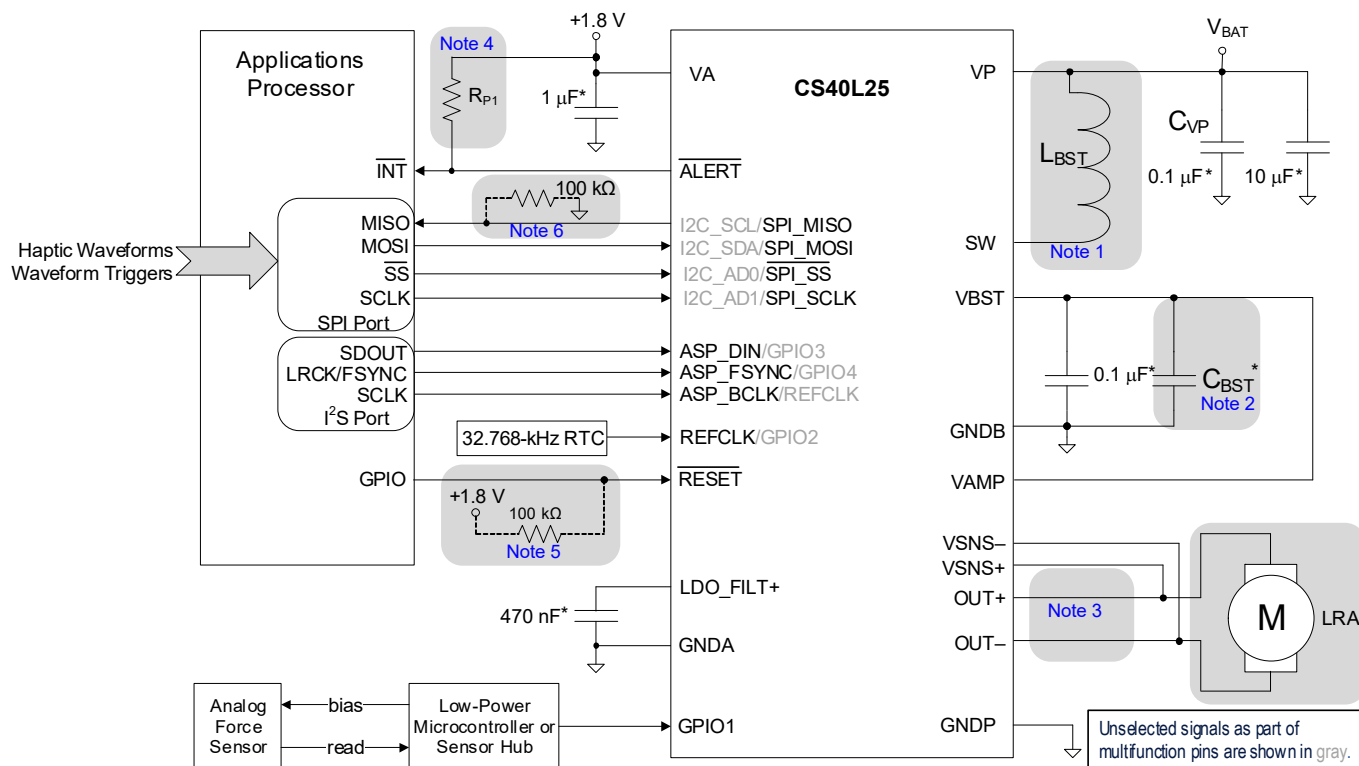
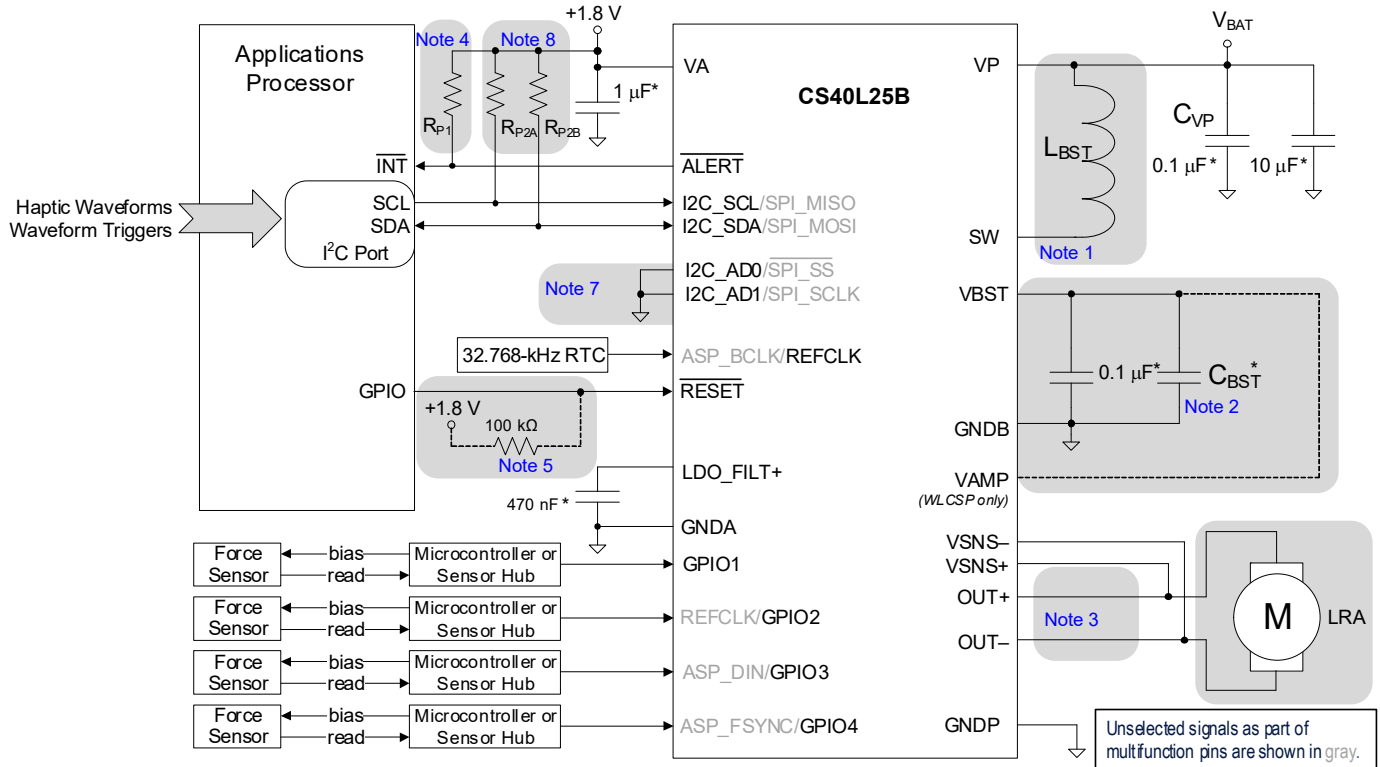

Figure 2-1. Typical Connection Diagram—SPI with GPI and I²S Support
Figure 2-4. Typical Connection Diagram—I2C Interface with Four GPIOs and Triggered Waveforms
- Fig. 2-1 – Fig. 2-4 are intended to provide a sample of possible connection schemes and does not encompass all variations.
Test conditions (unless specified otherwise): Fig. 2-1 – Fig. 2-4 show typical connections to, and passive components used with, the CS40L25/B; input test signal is a 24-bit full-scale 997-Hz sine wave with 1 LSB of triangular PDF dither applied; typical performance data taken with VA = 1.8 V, VP = 3.6 V, VAMP = VBST = 11.0 V; min/max performance data taken with VA = 1.80 V, VP = 3.60 V, VAMP is automatically adjusted between VP and 11.0 V by Class H based on signal level; Ground = GND = GNDA = GNDP = 0 V; voltages are with respect to ground; T_A = 25°C; AMP_VOL_PCM = 0 dB; AMP_RAMP_PCM = 000; measurement bandwidth is 20 Hz to 20 kHz; Fs = 48 kHz; L_{BST} = 1.0 µH; f_{PLL_OUT} = 196.608 MHz. Device initialization after power-on and reset done as described in Section 4.2.4.
Test conditions (unless specified otherwise): Fig. 2-1 – Fig. 2-4 show typical connections to, and passive components used with, the CS40L25/B; input test signal is a 24-bit full-scale 997-Hz sine wave with 1 LSB of triangular PDF dither applied; typical performance data taken with $V_A = 1.8\text{ V}$, $V_P = 3.6\text{ V}$, $V_{AMP} = V_{BST} = 11.0\text{ V}$; min/max performance data taken with $V_A = 1.80\text{ V}$, $V_P = 3.60\text{ V}$, $V_{AMP} = 11.0\text{ V}$; Ground = GND = GNDA = GNDA = 0 V; voltages are with respect to ground; $T_A = 25^\circ\text{C}$; measurement bandwidth is 20 Hz–20 kHz AES-17; $F_s = 48.0\text{ kHz}$; $L_{BST} = 1.0\text{ }\mu\text{H}$; $f_{PLL_OUT} = 196.608\text{ MHz}$; simulated load = $8\text{ }\Omega + 33\text{ }\mu\text{H}$. Device initialization after power-on and reset done as described in Section 4.2.4.
Test conditions (unless specified otherwise): Fig. 2-1 – Fig. 2-4 show connections to, and passive components used with, the CS40L25/B; typical performance data taken with $V_A = 1.8\text{ V}$, $V_P = 3.6\text{ V}$, $V_{AMP} = V_{BST} = 11.0\text{ V}$; min/max performance data taken with $V_A = 1.80\text{ V}$, $V_P = 3.60\text{ V}$, $V_{AMP} = V_{BST} = 11.0\text{ V}$; Ground = GND = GNDA = GNDA = 0 V; voltages are with respect to ground; $T_A = 25^\circ\text{C}$; $L_{BST} = 1.0\text{ }\mu\text{H}$; $C_{BST} = 3.6\text{ }\mu\text{F}$; $f_{PLL_OUT} = 196.608\text{ MHz}$. Device initialization after power-on and reset done as described in Section 4.2.4.
Test conditions (unless specified otherwise): Fig. 2-1 – Fig. 2-4 show typical connections; Ground = GND = GNDA = GNDA = 0 V; voltages are with respect to ground; $V_A = 1.8$ V, $V_P = V_{AMP} = V_{BST} = 3.6$ V; $T_A = 25^\circ\text{C}$; $\overline{\text{RESET}}$ inactive; control port inactive; DSP disabled and bypassed. Device initialization after power-on and reset done as described in Section 4.2.4.
Test conditions (unless specified otherwise): Fig. 2-1 – Fig. 2-4 show typical connections; Ground = GND = GNDA = GNDA = 0 V; voltages are with respect to ground; $V_A = 1.8$ V, $V_P = 3.6$ V, V_{AMP} sourced from and attached to VBST; $T_A = 25^\circ\text{C}$; $\overline{\text{RESET}}$ inactive; $f_{PLL_OUT} = 196.608$ MHz; ADSP is in Slave Mode with $F_s = 48$ kHz; input test signal is a 24-bit 997-Hz sine wave with 1 LSB of triangular PDF dither applied. DSP disabled and bypassed. Device initialization after power-on and reset done as described in Section 4.2.4.